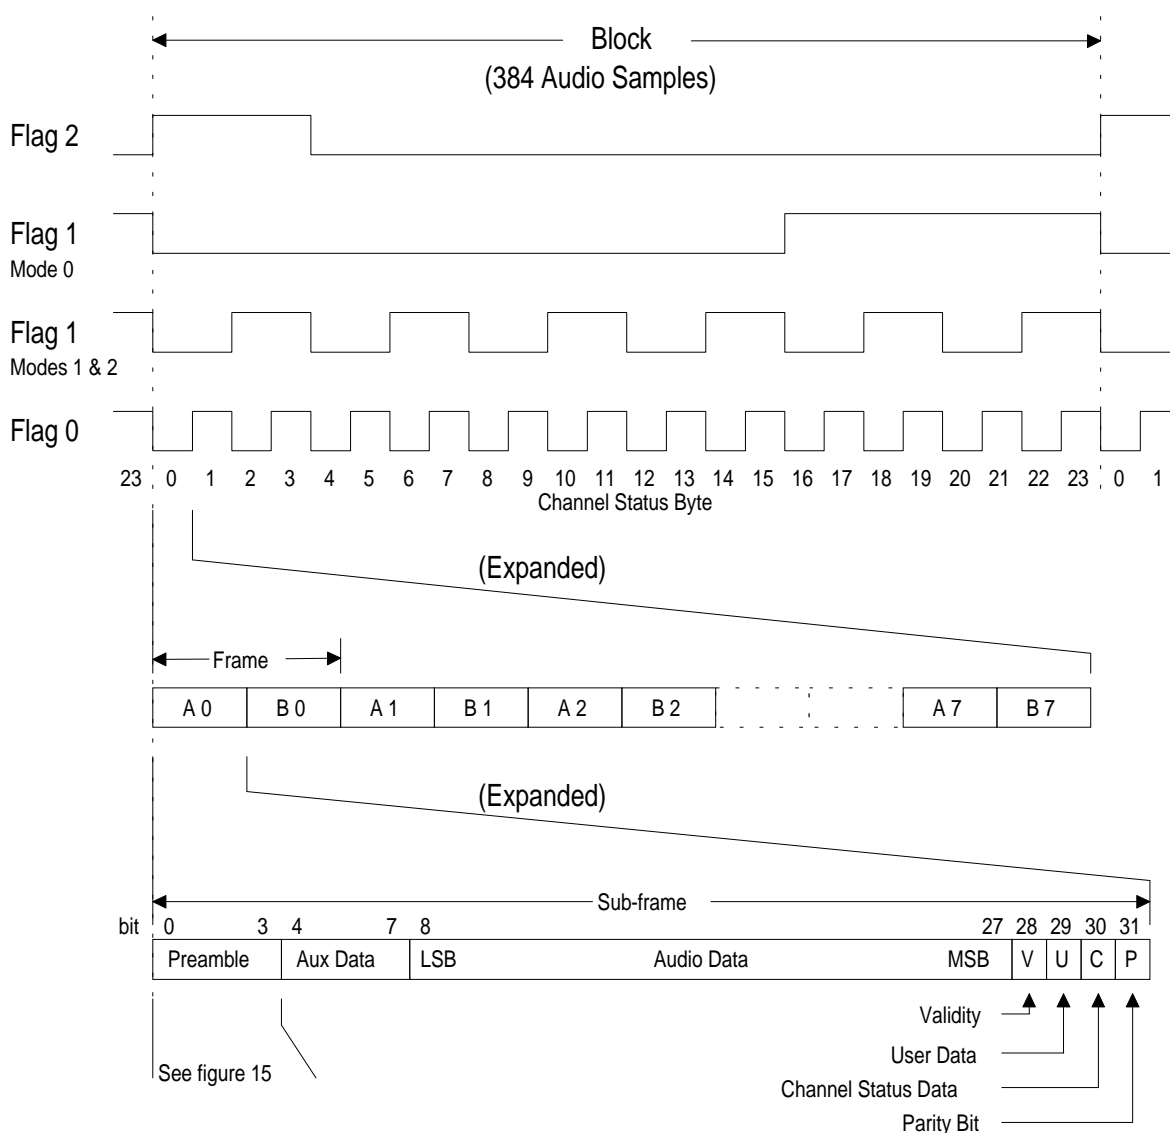
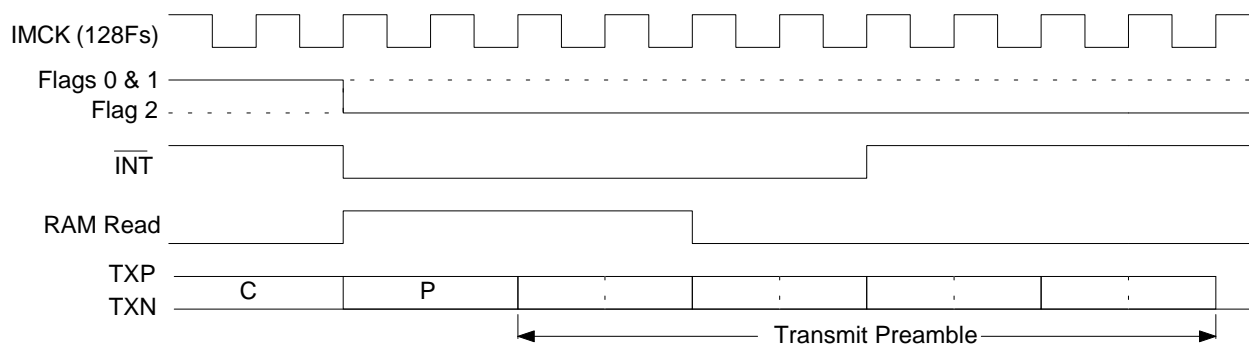

Figure 11. CS8401A Status Register Flag Timing
Figure 15. RAM/Buffer-Read and Interrupt Timing
FLAG1: Memory mode dependent - See figure 11
Flag 2 is set high when byte 0 of the channel status, address 08H, is read, and set low when byte 4, address 0BH, is read. Therefore, flag 2 high indicates the part is reading the first four bytes of channel status, and the last 20 bytes are free to update. If the interrupt mask bit for flag 2 is set, the rising edge will cause an interrupt indicating the beginning of a channel status block as shown in Figure 11. Although a falling edge
Figure 11 illustrates the flag timing for an entire channel status block which includes 24 bytes of channel status data and 384 audio samples. (This figure assumes the channel status bit is the same for the audio pair.) The lower portion of Figure 11 expands the first byte of channel status showing eight pairs of data with a pair defined as a frame. This is further expanded showing the first sub-frame (A0) to contain 32 bits as per the AES/EBU specifications (see Appendix A). When transmitting stereo, channel A is left and channel B is right. The preamble at the bottom of Figure 11 is expanded in Figure 15 to show the exact timing between flags, the interrupt pin, and internal buffer-read timing.
As mentioned previously in the buffer mode sections, conflicts between externally writing to the buffer ram and the CS8401A internally reading bytes of ram for transmission may be averted by using the flag levels to avoid the section currently being addressed by the part. Interrupts occur at flag edges indicating the exact byte that the part is currently reading. Utilizing $\overline{\text{INT}}$ along with the flags, the byte currently being read by the part can be avoided allowing access to all other bytes instead of just a section. Figure 15 illustrates the timing between flags, $\overline{\text{INT}}$, and the internal
reading of the buffer for transmission. The master clock IMCK is shown as $128 \times F_s$. Other MCK frequencies are initially divided to obtain $128 \times F_s$, defined as IMCK (internal MCK), which is then used for all internal timing, so the timing in Figure 15 is valid for all MCK frequencies. When the parity bit (P) is transmitted, a transition on a flag causes $\overline{\text{INT}}$ to go low if the appropriate mask bit is set. Concurrently, the part starts reading from the internal buffer. Writing to the buffer ram location being read by the part should be avoided while the internal "ram read" signal is high.